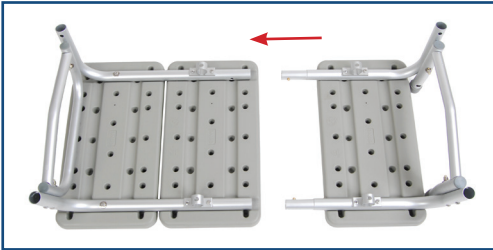

figure 1
3. Slide smaller seat section into larger section by depressing the brass push pins and inserting into the receptacles. Snap buttons will pop out when secure. (Figure 1)